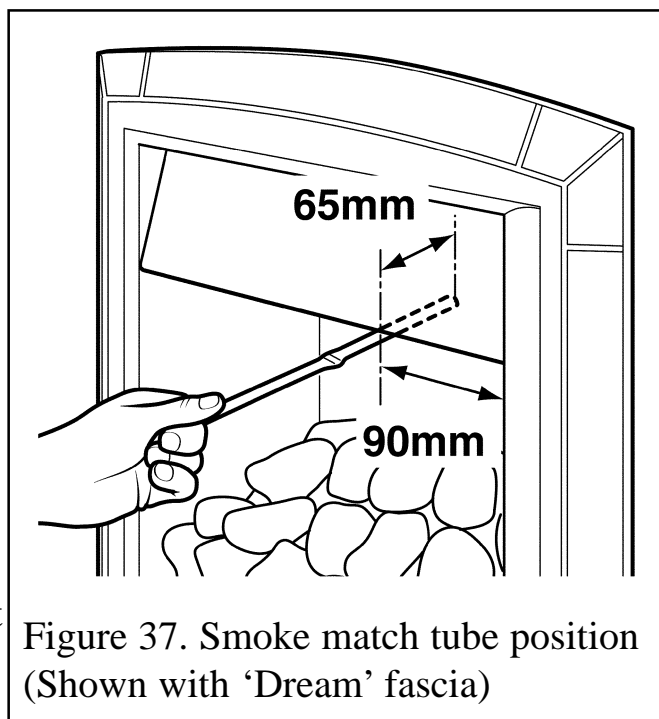

Figure 37. Smoke match tube position (Shown with 'Dream' fascia)
4. The smoke match should be placed horizontally into the hotbox at the right hand side (See figure 37). The installation is satisfactory if the smoke is drawn into the appliance.